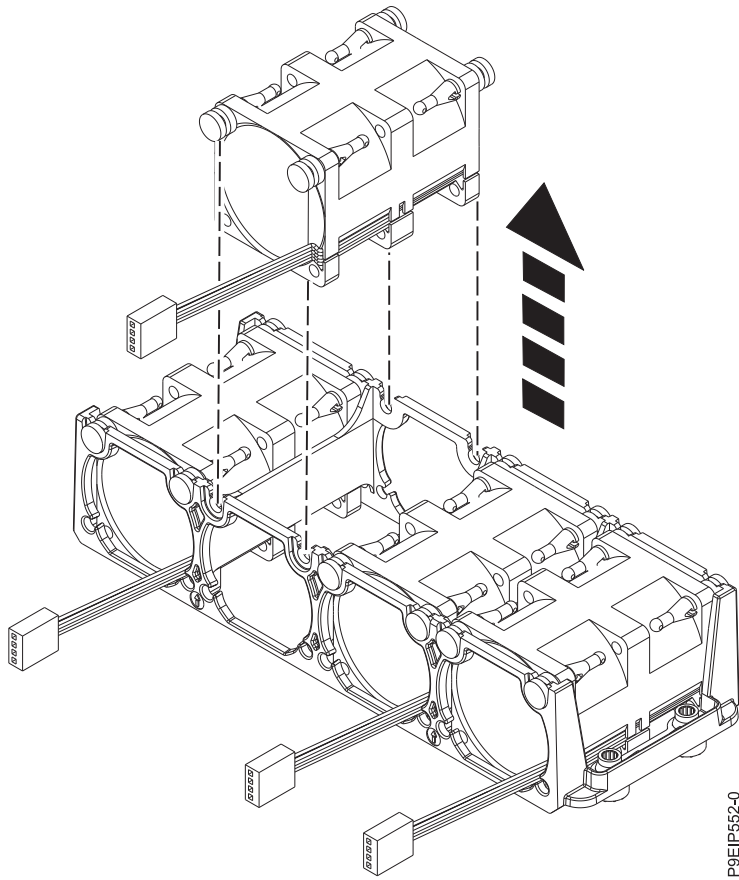

Figure 17. Removing a fan
3. Push the fan up from the holder as shown in Figure 17 on page 19.